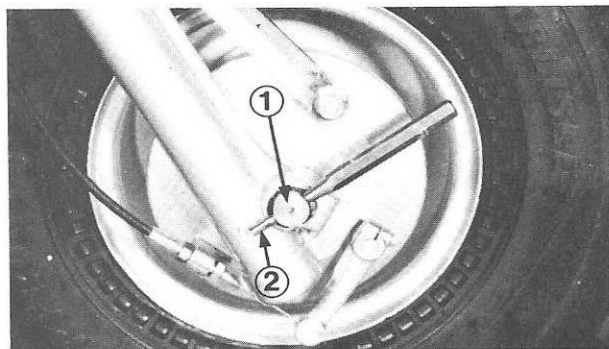

Fig. 46 ① Front Axle ② 1/4 Inch Rod
4. Insert a 1/4 inch diameter rod into the hole in the front axle (Figure 46).